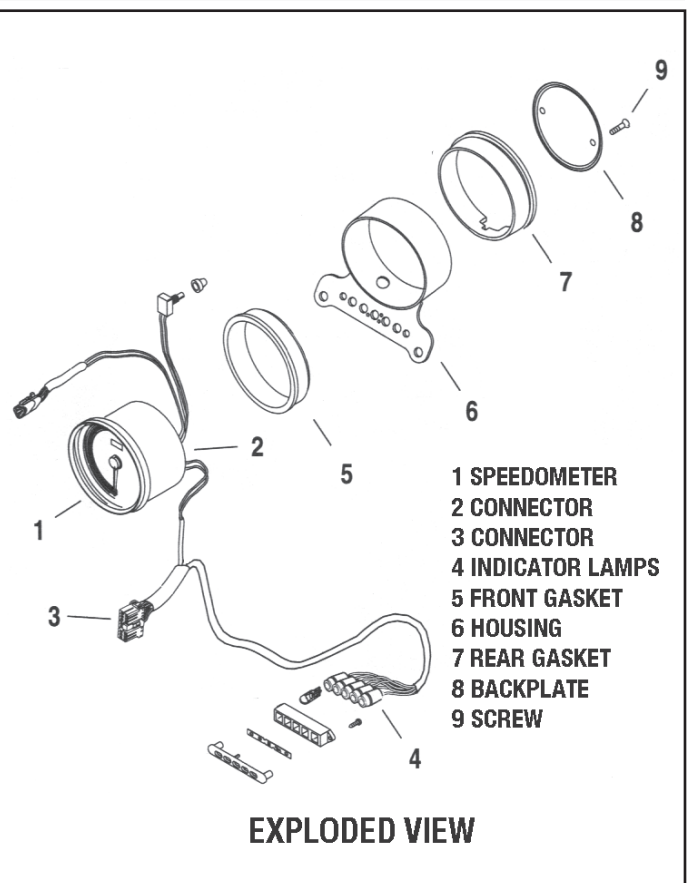

FIGURE 1
1. SEE FIGURE 1. Remove the two screws and the back plate.